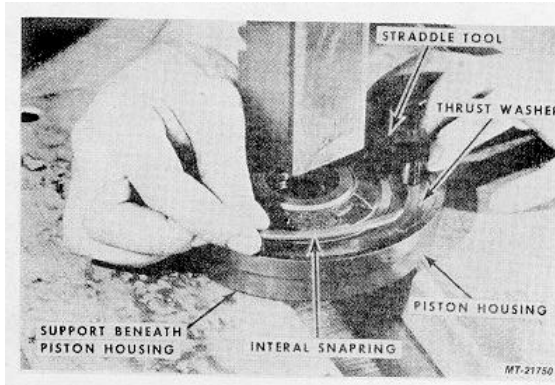

Fig. 58
21. Support beneath Piston Housing. Center Straddle Tool SE-2782-6 on Thrust Washer. Press Thrust Washer down 1/32" to allow installation of Internal Snapping, Fig. 58